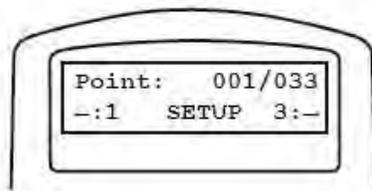

Fig. 33
- By pressing the **2** key, you will be shooting the exposures manually. The mount will prompt you to start the alignment. When you do, the mount will slew to the first picture position. The display will be similar to that in **Fig. 33**, which display’s Picture Position 1 of 33. You would then take the picture using the camera’s shutter release button. Press **3** on the hand control to slew to the next picture position and manually take the image. Continue this process until all images have been taken. At any time, if you want to go back and reshoot any of the picture points, you can press **1** to go through the points in reverse.